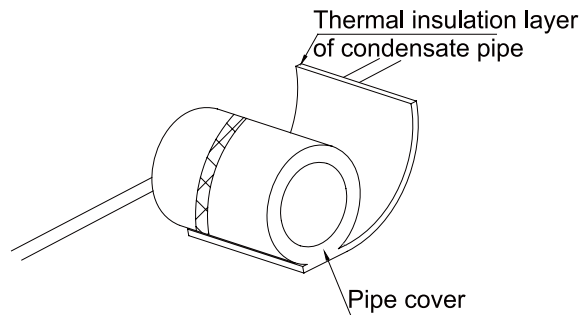

Figure 1-1-10
- The Drainage Pipeline shall be installed with an inclining angel of  $5\sim 10^\circ$ , so as to facilitate the drainage of condensate. The joints of the Drainage Pipeline must be covered by thermal insulation materials to avoid generation of exterior condensate. (As shown in Figure 1-1-10)